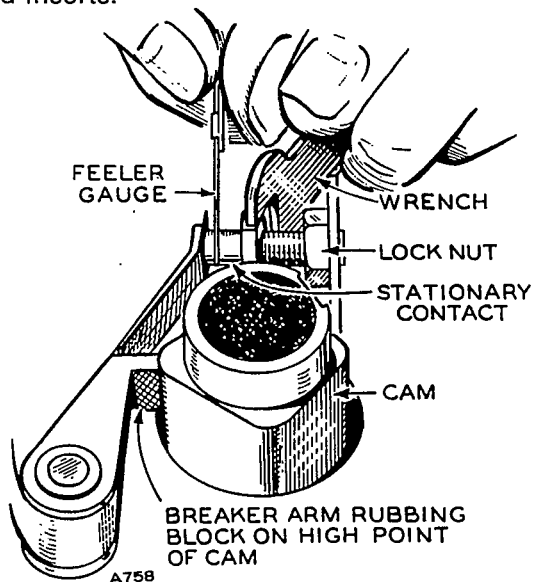

FIGURE 43. SETTING BREAKER POINTS
To adjust the breaker points, remove the distributor cap and rotor. Rotate the crankshaft to get maximum breaker gap. The gap should be between .018 inch and .022 inch. At the same time, inspect the points for dirt or pitting. Dirty points can be cleaned with tape and solvent. If the points are excessively pitted, they must be replaced. See Figure 43.
8. Rotate drive shaft to obtain maximum breaker gap and set gap for .020 inches (Figure 43).